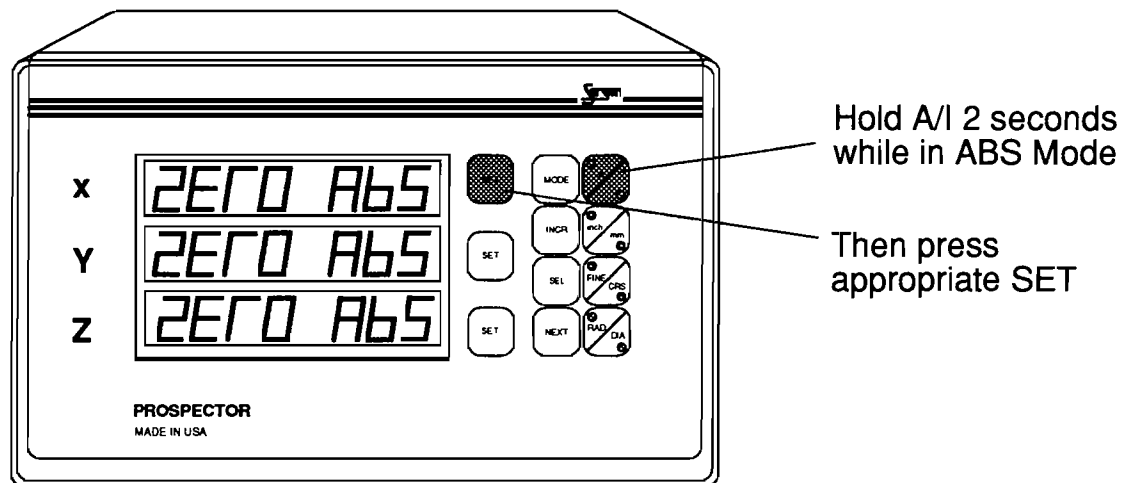

Figure 17: ZERO ABS
Using the A/I button, toggle to the Absolute Mode (A). Then press and hold the A/I button until the unit displays ZERO ABS (see Figure 17). At that point press the relevant SET button(s) to reset the corresponding absolute coordinate(s) to zero.